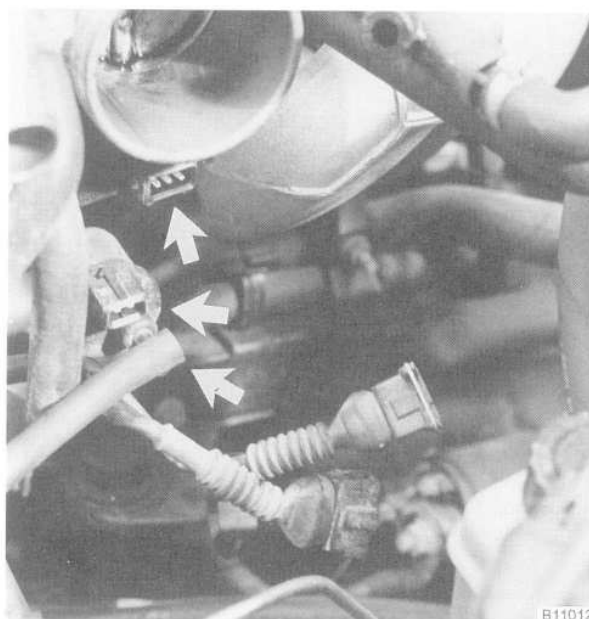

Fig. 6. Disconnect throttle switch and purge valve harness connectors and fuel tank venting hose (arrows).
17. Working at the throttle housing, disconnect the electrical connector from the idle air stabilizer valve, the throttle switch, and the evaporative purge valve. Cut any wire ties holding the wires in place. Disconnect the tank venting hose from the charcoal canister. See Fig. 6.